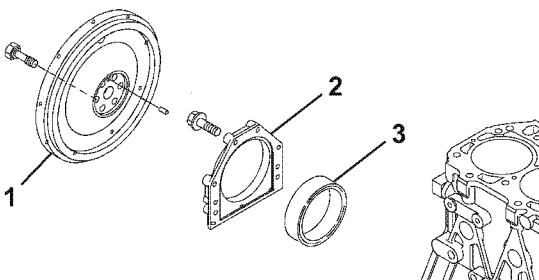

Figure 6-92
- Apply ThreeBond Liquid Gasket No. 1207F, YANMAR Part No. 977770-1207F to the mounting flange of the seal housing (Figure 6-92, (2)).
- Reinstall the flywheel (Figure 6-92, (1)) and tighten the bolts to the specified torque. See *Special Torque Chart* on page 6-16 for specifications.